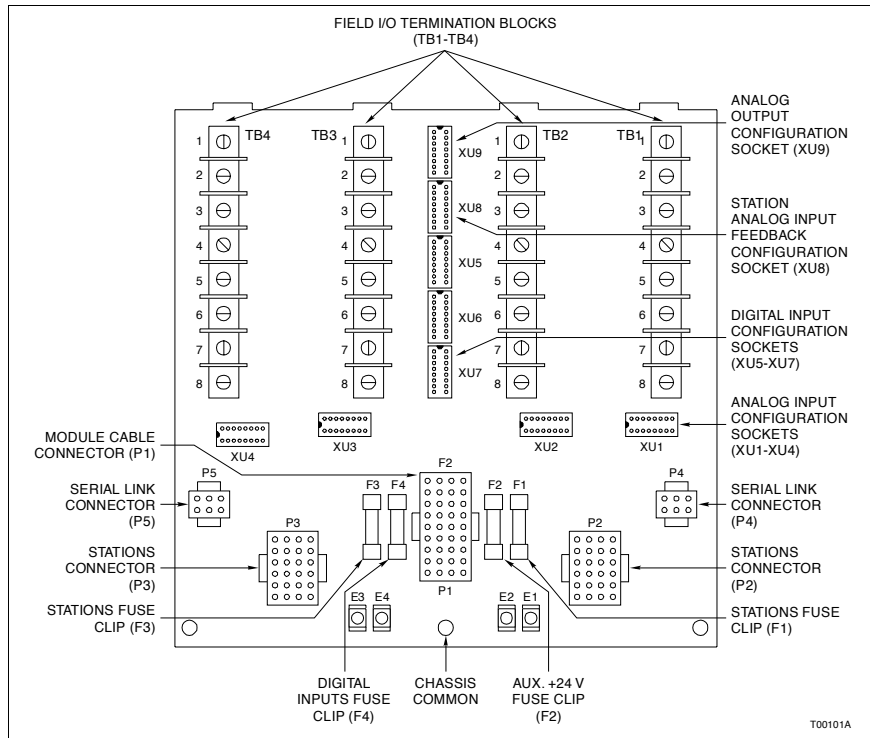
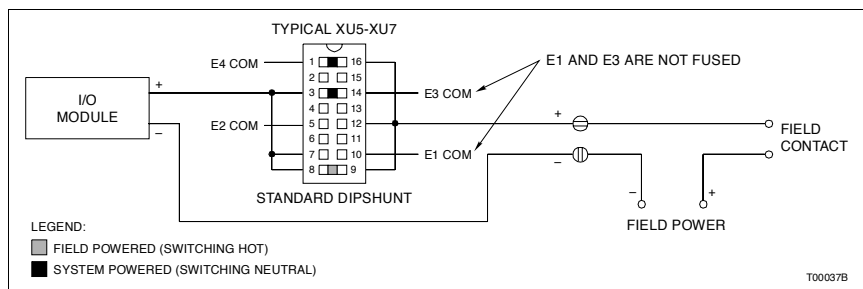

Figure A-1. NTCS04 Termination Unit Layout
Figure A-2. Switching Hot vs. Switching Neutral
Figure A-1 shows the NTCS04 termination unit configuration sockets (dipshunts). Refer to this figure when connecting field wiring to the NTCS04 termination unit. Figure A-2 shows a standard dipshunt with jumper positions for switching hot and switching neutral. Refer to Tables A-1 through A-4 to determine the dipshunt strapping.
1. Using the field device to complete the path to ground is commonly referred to as switching neutral. Using the field device to complete the path to the I/O module is referred to as switching hot. If switching hot is the desired method, the field powered dipshunt configuration must be used. If system power is required, it should be wired as a field source. Refer to Figure A-2 for an example of switching hot and switching neutral.